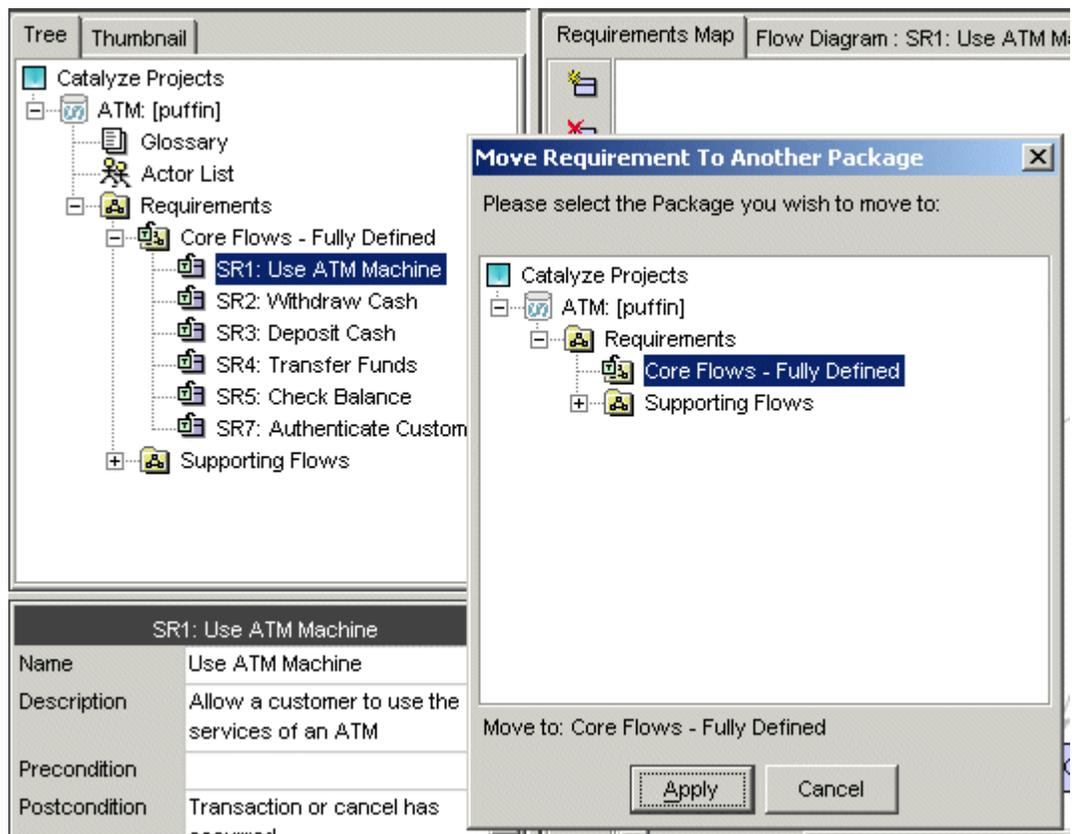

Figure 45 - The Move screen – to the right above, titled 'Move Requirement To Another Package'
- On the Tool bar click on the  button (to move a Requirement) or the  button (to move a Package) whereupon the screen shown in Figure 45 below will appear.